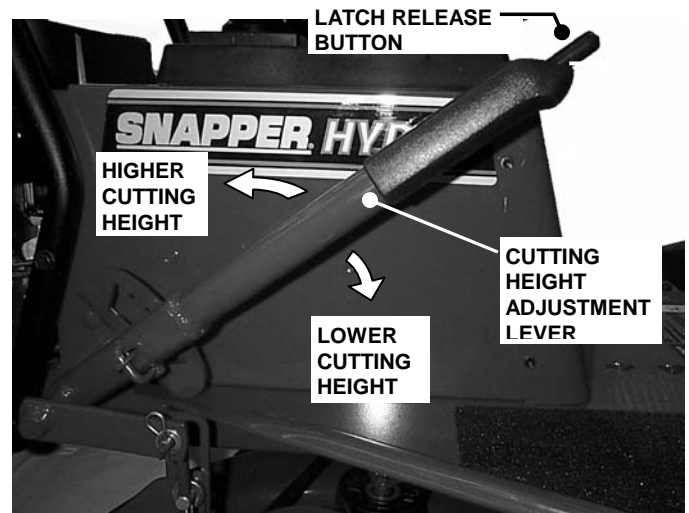

FIGURE 2.16
1. Adjust cutting height using cutting height adjustment lever. Depress latch release button located at the tip of the cutting height lever and move lever to desired cutting height. Release latch button. Try to move cutting height lever to ensure latch is fully engaged. See Figure 2.16.